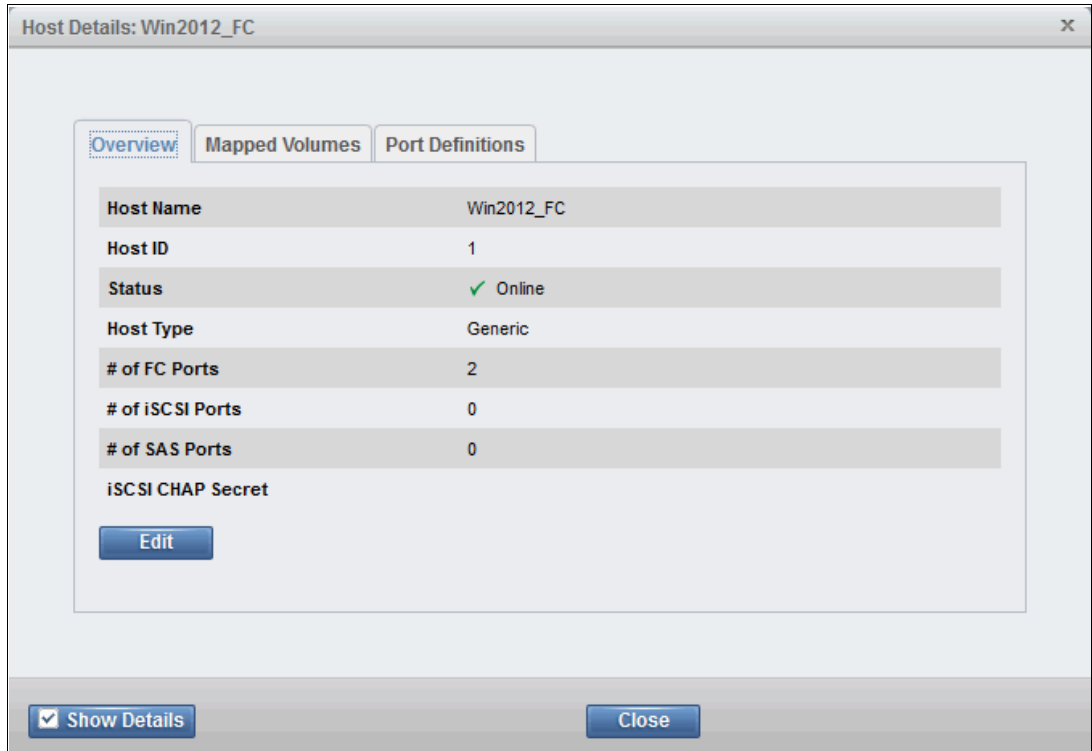

Figure 8-23 Host details
2. Figure 8-23 shows the Overview tab of the Host Details pane. Select the **Show Details** box in the lower left to see more information about the host.